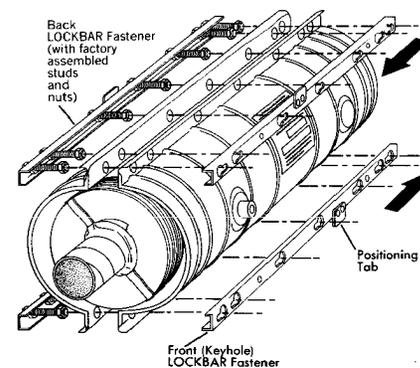

Figure 32 — LOCKBAR Application to Splice Case Flange
1. LOCKBAR Fastening consists of a (back) studded LOCKBAR assembly with factory assembled threaded bolts and nuts, and a (front) keyhole LOCKBAR assembly. The back LOCKBAR assembly mates with the flange of the Splice Case Shells, and then locks into position. (Fig. 32)
- Positioning Tabs have been added to each LOCKBAR Fastener (front and back). These tabs should always point away from the Splice Case and will help assure proper alignment and eliminate the chance of a bar being misapplied. (See Figure 32)
- Apply the front shell and close the case using the LOCKBAR Fastening system. First apply the (back) studded LOCKBAR assembly through the Splice Case flange holes. Then apply the (front) keyhole LOCKBAR assembly. Lock into position so that the shells are secure. (Fig. 32) Be certain to apply the LOCKBAR Fasteners into the flange of the Splice Case, not over it.
- Refer to 10.03, point number 4 and Figure 32.